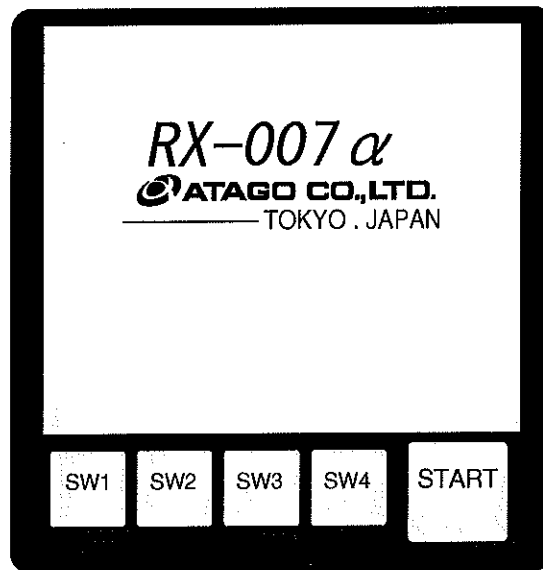

Fig.6-2
- (2) If the digital printer DP-RX (optional) is connected, slide the power switch to the I position first.
(3) Tilt the power switch located at the back of the RX-007 α to the I position to power the unit on.
(4) Step 3 powers on the RX-007 α and DP-RX. The RX-007 α will display the screen as shown in Fig. 6-2. Three seconds later, the display switches to one of the screens illustrated in the measurement (or ZERO SET END) display screen.